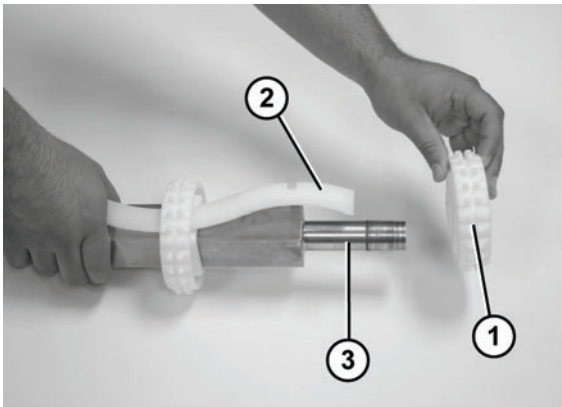

Figure 61
10. Slide the sprockets (**Figure 61, item 1**) and the sprocket alignment bar (**Figure 61, item 2**) off the drive spindle (**Figure 61, item 3**).